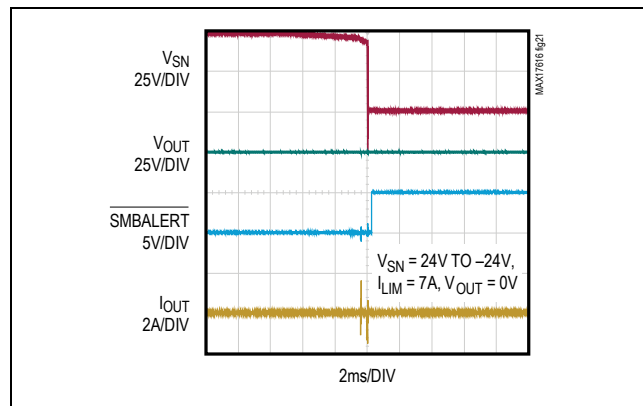
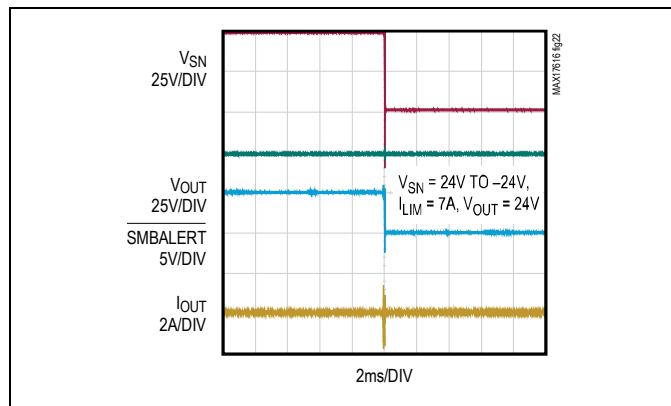

Figure 21. Input Reverse-Polarity Protection at $V_{OUT} = 0V$ and $V_{SN} = -24V$
Figure 22. Input Reverse-Polarity Protection at $V_{OUT} = +24V$ and $V_{SN} = -24V$
The magnitude of reverse-polarity voltage protection is dependent on the operating load bus voltage (V_{OUT}) and the voltage-blocking capability of the external nFET. For example, for protection down to a -55V input voltage with $V_{OUT} = 30V$, an external nFET rated for 85V is needed. The devices provide a gate drive (GN) of 6.5V (typ). Figure 21 shows the reverse-polarity protection of MAX17616 with $V_{OUT} = 0V$ and $V_{SN} = -24V$. Figure 22 shows the reverse-polarity protection of MAX17616 with $V_{OUT} = +24V$ and $V_{SN} = -24V$.